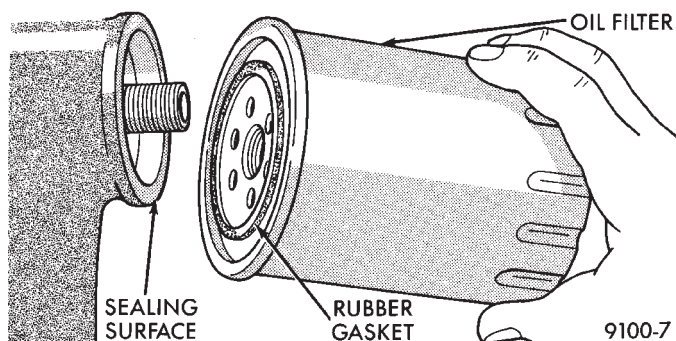

Fig. 10 Oil Filter Sealing Surface—Typical
- (4) When filter separates from adapter nipple, tip gasket end upward to minimize oil spill. Remove filter from vehicle.
- (5) Make sure old gasket comes off with oil filter. With a wiping cloth, clean the gasket sealing surface (Fig. 10) of oil and grime.
(1) Lightly lubricate oil filter gasket with engine oil or chassis grease.
(2) Thread filter onto adapter nipple. When gasket makes contact with sealing surface, (Fig. 10) hand tighten filter one full turn, do not over tighten.
(3) Add oil, verify crankcase oil level and start engine. Inspect for oil leaks.